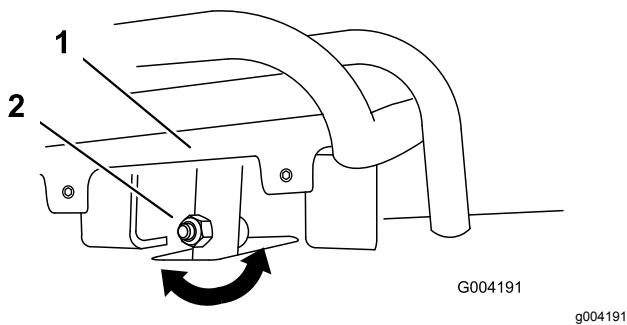
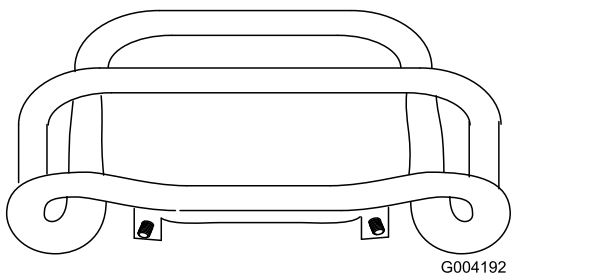

Figure 55
Figure 56
4. If the front of the traction control does not rest square and flush with the reference bar, loosen the nut and bolt in the stem of the traction control (Figure 55).
5. Adjust the traction control so that it rests flush against the reference bar when it is pulled straight back (Figure 55 and Figure 56).
- C. Loosen the flange nut and bolt in the stem of the traction control (Figure 55).
- I. Adjust the traction control so that it rests flush against the reference bar when it is pulled straight back (Figure 55 and Figure 56).